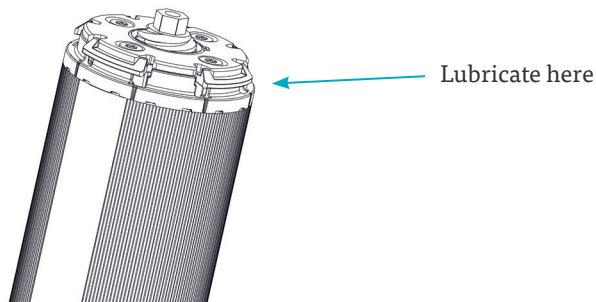

Fig. 9: Lubricating the Nut Insert
4. Properly lubricate the Actuator's Nut Insert (Fig. 9) to minimize friction between the Middle Tube Adapter and the DMD660. Consult LOGICDATA for a list of recommended lubricants